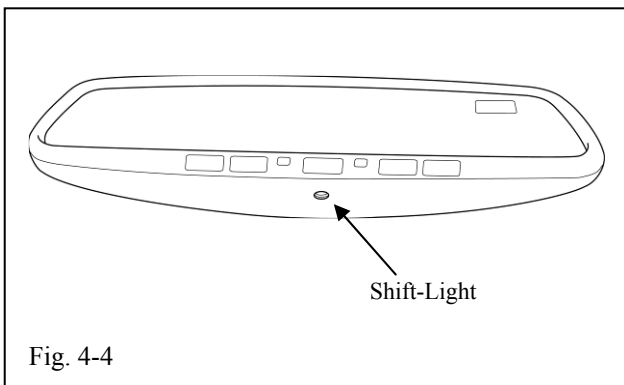

Fig. 4-4
- (1) With ignition ON, cover forward-looking light sensor on back of the mirror. Low-level ambient lighting should be visible from the bottom of the mirror. (Fig. 4-4)